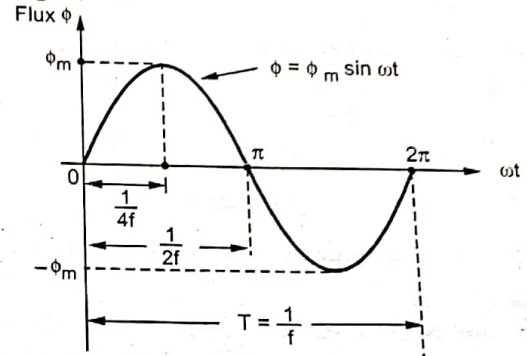

Fig. Q.6.1 Sinusoidal flux
• The maximum value of this flux is ϕ_m as shown in the Fig. Q.6.1.
- Consider the 1/4th cycle of the flux as shown in the Fig. Q.6.1. Complete cycle gets completed in 1/f seconds. In 1/4th time period, the change in flux is from 0 to ϕ_m .